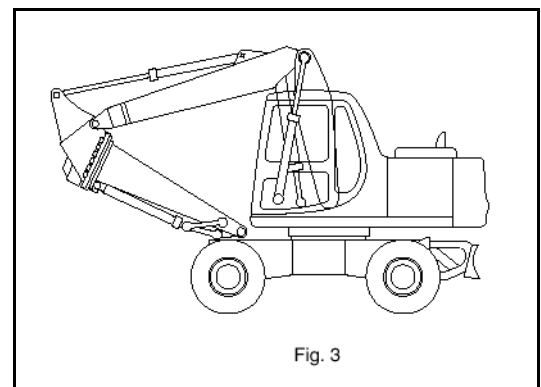

Fig. 3
8. Carefully lower the arm down onto the undercarriage. (Fig. 3)